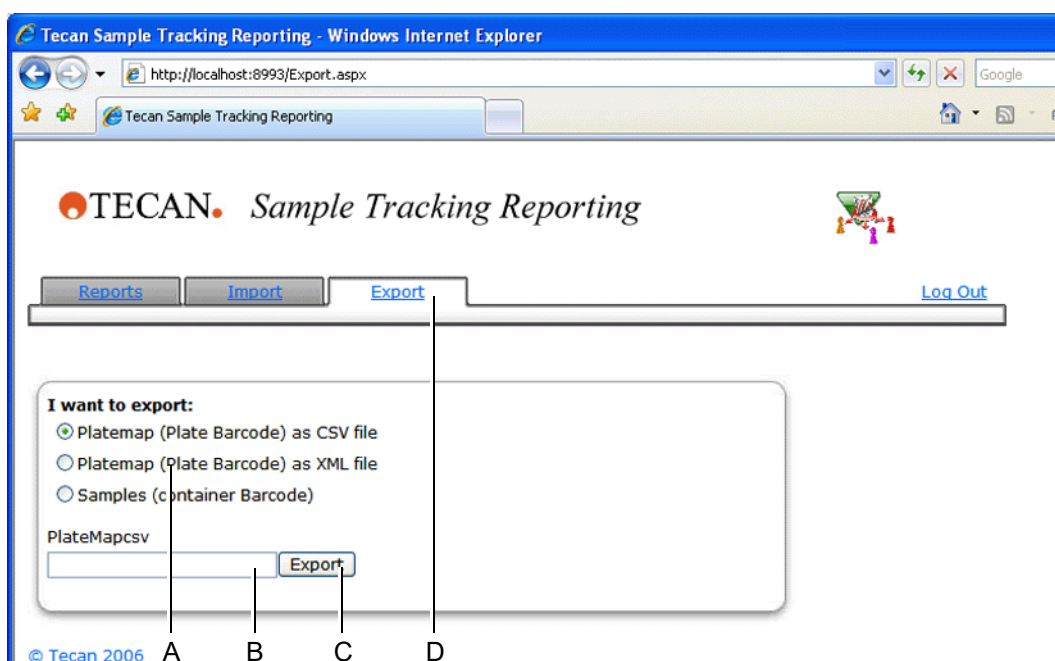

Fig. 7-7 Tab Export
- Select the tab **Export** (D) to display the export screen Fig. 7-7, 7-11: